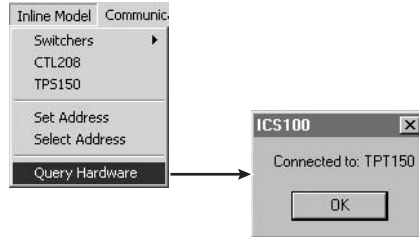

Figure 4-5 — Connected window
- Click *Inline Model* > *Query Hardware* to configure the ICS100 program to communicate with the TPT150 and to confirm that communications have been established with the transmitter. The connected window appears (figure 4-5).